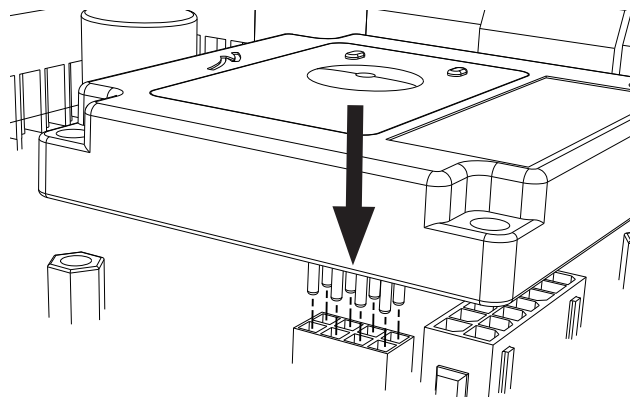

Fig.7. Make sure that the receiver module's pins fit in the terminal block before pressing the receiver module straight down onto the control card.
2. Align the receiver module on the control card. Make sure that the receiver module's pins fit in the terminal block before pressing the receiver module straight down onto the control card. Fig.7.